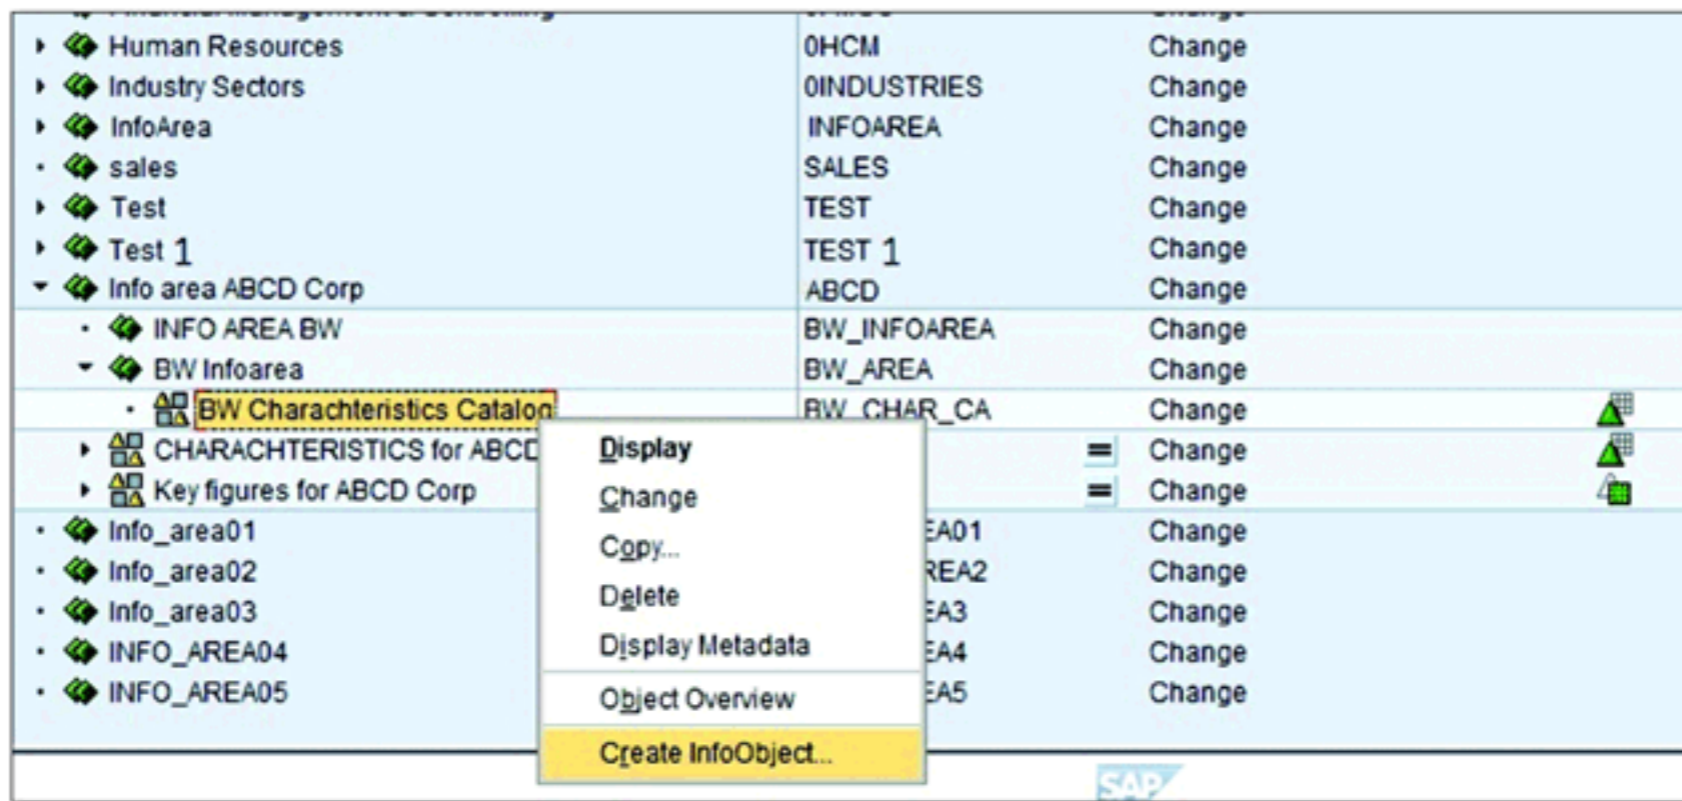
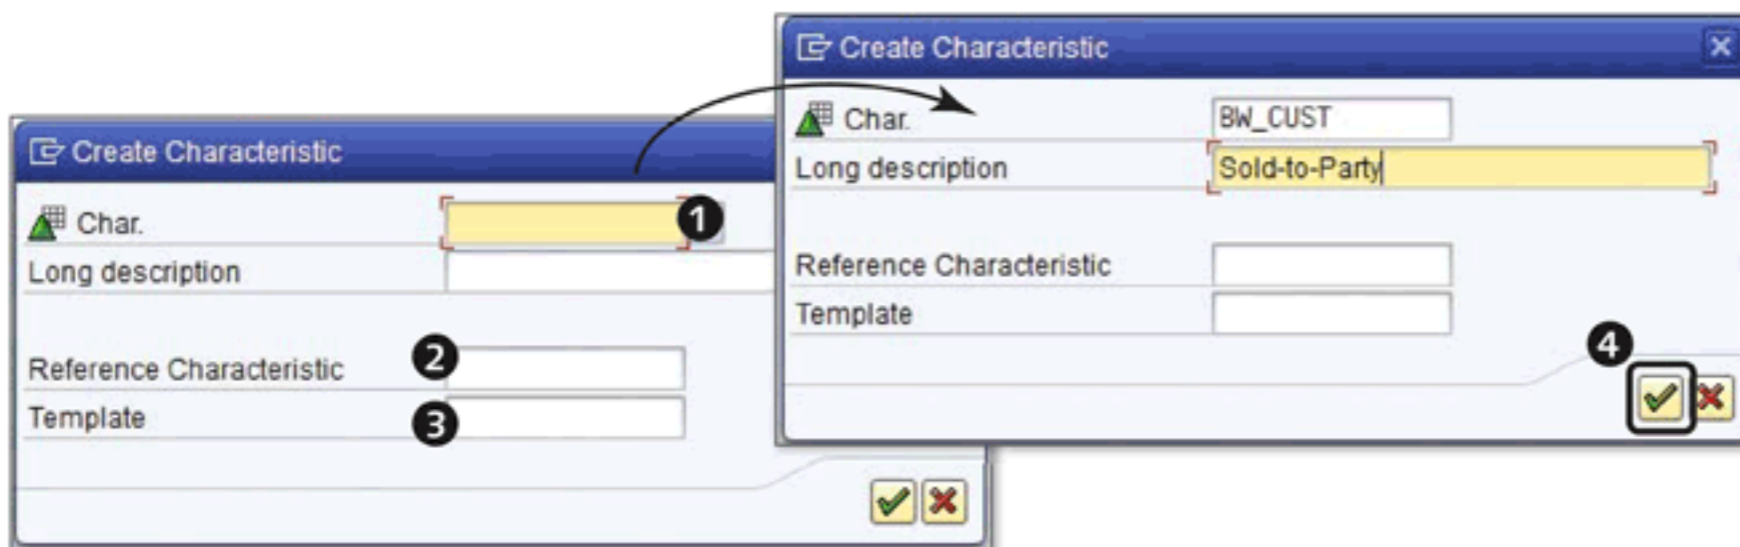

Figure 3.10 Create InfoObject: Context Menu
Figure 3.11 Creating Characteristic InfoObject
3. Within the modeling tasks, click on INFOOBJECTS. A tree structure appears on the right of the screen. Click on INFOOBJECT CATALOG BW_CHAR_CA, and select CREATE INFOOBJECT from the context menu (Figure 3.10). A screen appears prompting you to enter the name of the characteristic InfoObject you want to create (❶ of Figure 3.11).
4. Enter the name of the InfoObject (BW_CUST) and description (SOLD-TO-PARTY). From ❷ and ❸ of Figure 3.11, you can see that there are two additional fields: REFERENCE CHARACTERISTIC and TEMPLATE. For our example scenario requirements, we leave these blank.
referred to as sold-to parties; rather, they would want them to be referred to as payers. To solve this problem, you can create an identical InfoObject—comprised of the same definition (explained in detail in Section 3.5) and master data—with its only difference being the description (PAYER instead of SOLD-TO-PARTY). To do this, enter the existing InfoObject into the REFERENCE CHARACTERISTIC field (2 of Figure 3.11).
To understand how this field is used, assume that you want to create a new InfoObject that is similar to an existing InfoObject. Enter the name of the new InfoObject in the field titled CHAR., and enter the name of the already-available InfoObject in the TEMPLATE field (3 of Figure 3.11). Click on the CONTINUE icon (4).